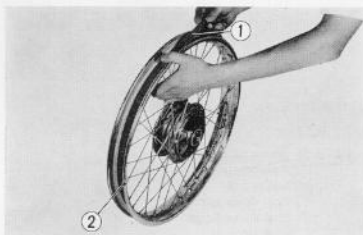

Fig. 4.99 Installing rim band
1. Install the rim band ① so that it completely covers the spoke nipple. (Fig. 4.99)